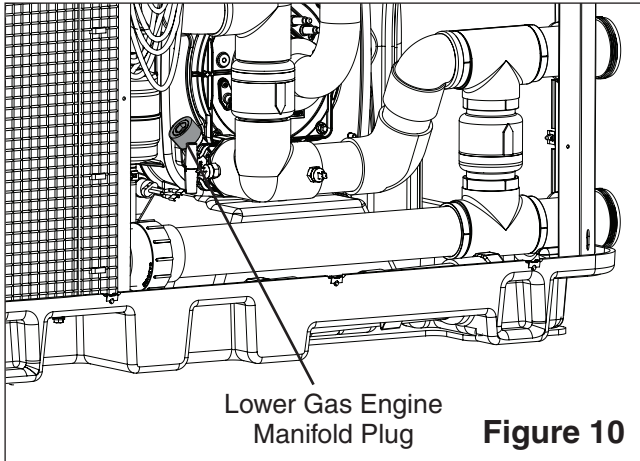

Figure 10
2. Remove the lower gas engine manifold 3/4-inch brass plug. See **Figure 10**.